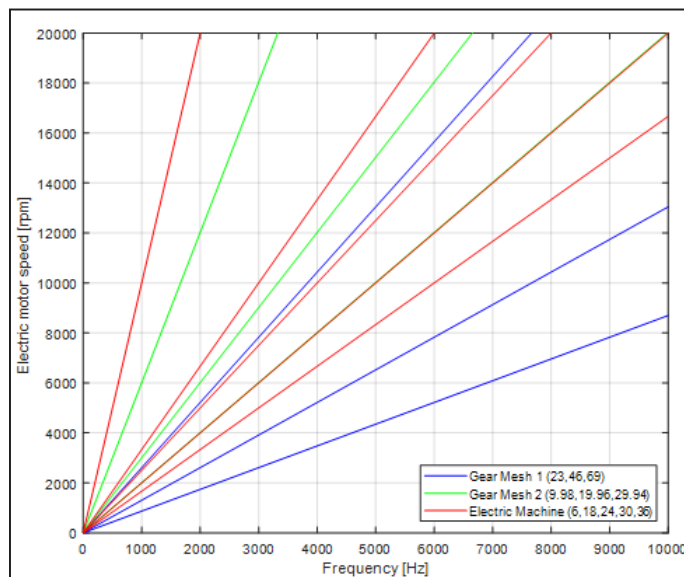

Figure 1 Campbell plot of the case study transmission.
**Campbell diagram of a mechanical transmission.** The Campbell diagram represents the vibration frequencies of a system at various operating speeds. A typical Campbell diagram plot is shown (Fig. 1): the system frequency is along the X-axis and the electric motor speed is along the Y-axis. This study is necessary to determine if a natural frequency is excited by running frequency or its harmonics and if orders coming from different sources overlap, which must be avoided. In the following, calculation of the excitation frequencies (also called excitation orders) of both electrical and mechanical components is presented.